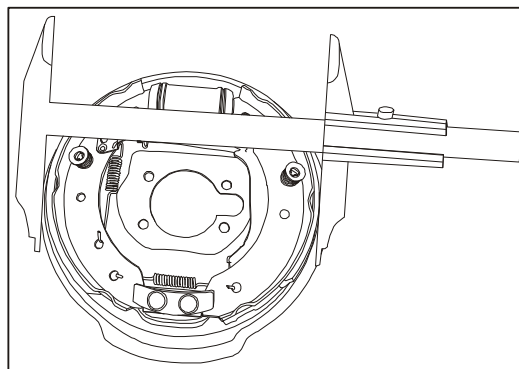

Fig.5-24 Measuring the Diameter of Brake Shoe
(4) Before installing the brake drum, turn the control nut as per the methods shown in Fig.5-24 to make the diameter R of brake shoe conform to the specified value: $R=202.5$ mm. For the repaired and machined brake drum with non-standard diameter, adjust its X value properly.